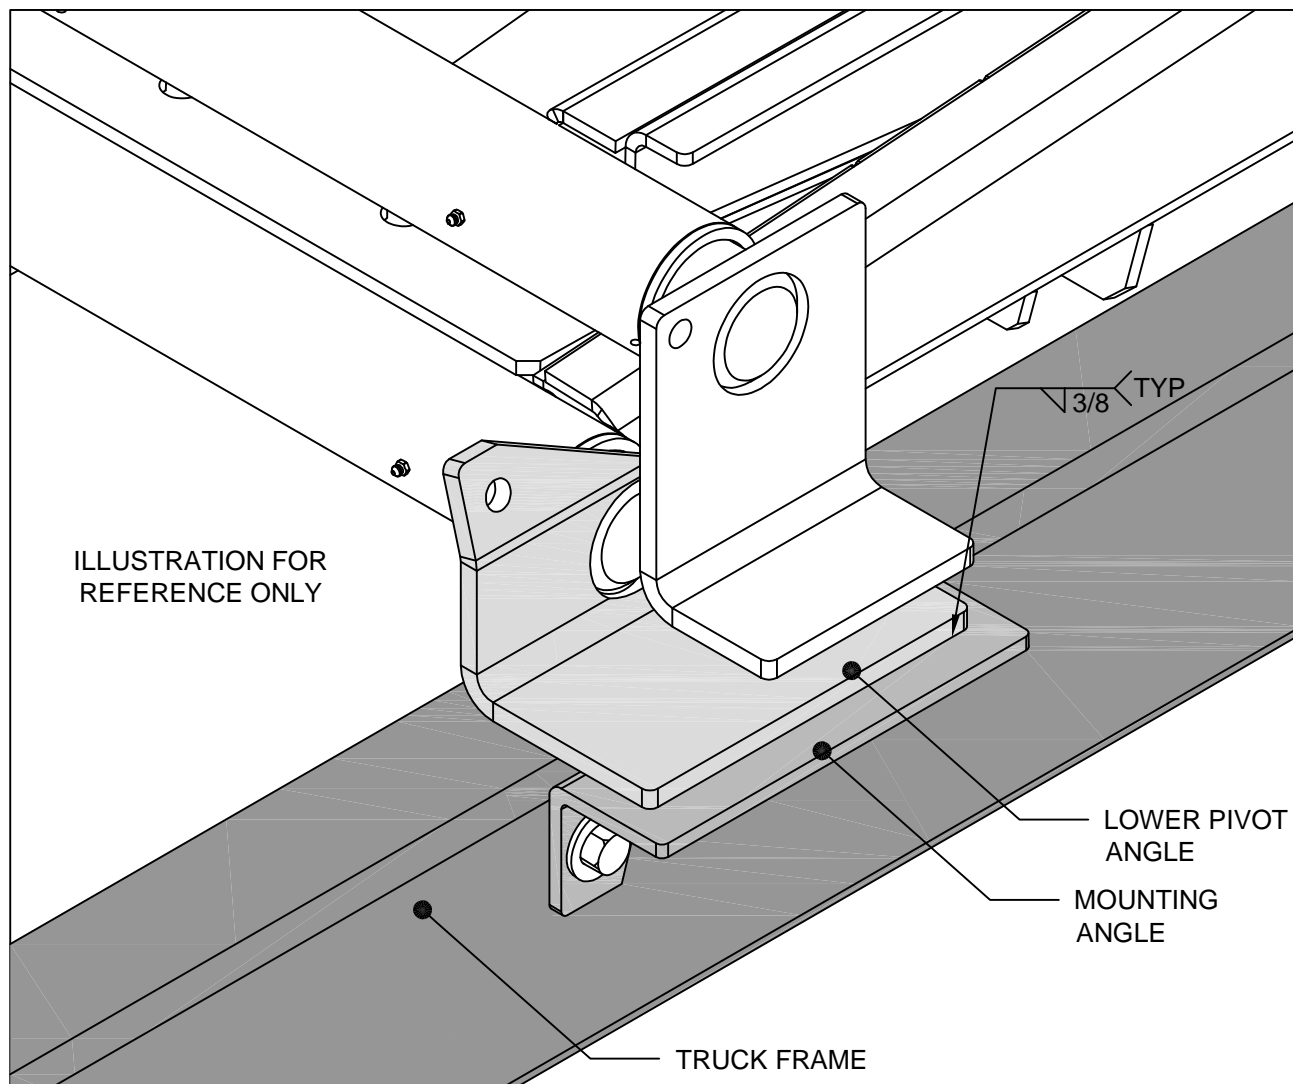

Figure 3. Mounting angle assembly.
- E. After the hoist is positioned, place the mounting angles (Figure 3) under the lower pivot angles and against the truck frame. Clamp securely in place. Drill through the frame and install the mounting angle with two [2] 1/2-13 x 1-1/2" Grade 8 hex head cap screws, lock washers, hex nuts, and four [4] flat washers (both sides).
- F. Weld each end of the lower pivot angle to its mounting angle as shown in Figure 3. Note the welding symbols. Do not weld to the truck frame.